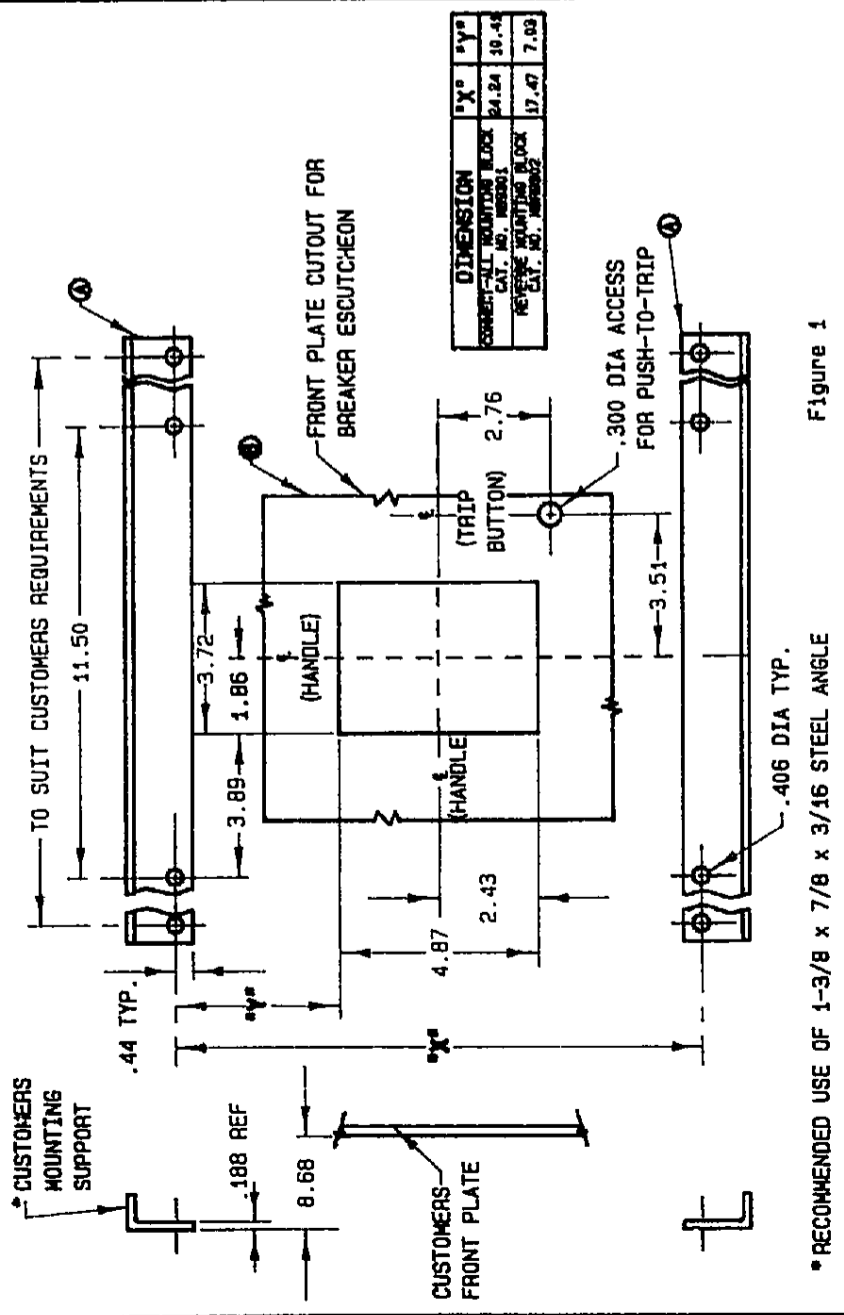

Figure 1
1. Provide suitable mounting supports (Item A) and drill holes per figure 1. (Recommended use of 1-3/8 x 7/8 x 3/16 steel angle)
2. Provide cutout for breaker escutcheon in front plate (Item B, Fig.1).